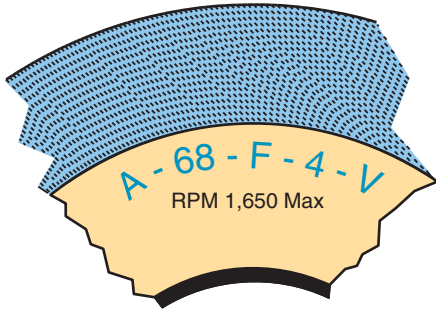

Figure 13-82 In general, how might this grinding wheel be used? For what duty and material?
1. Interpret the grinding wheel shown in Fig. 13-82. How will it be best used? (LO 13-1)